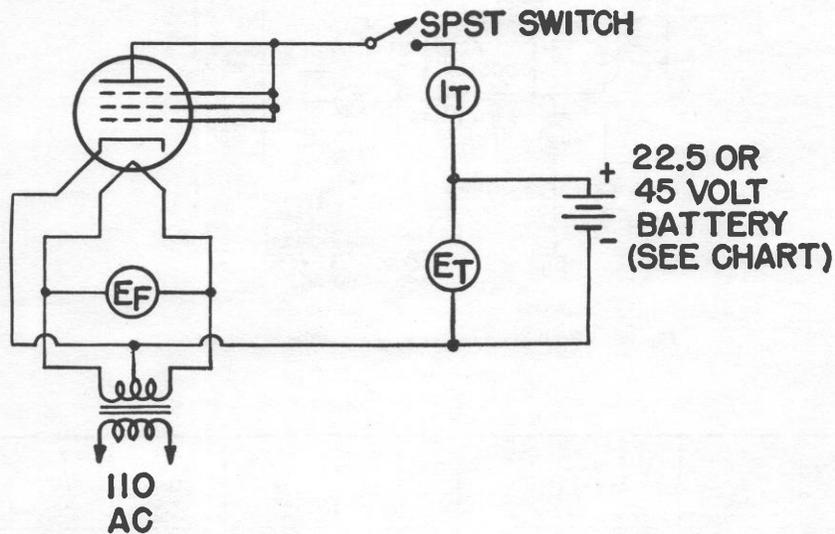

Fig. 3. Circuit diagram for limited peak emission test.
To run this test, connect the tube as shown in Fig. 3. Apply the filament voltage specified in column 1, page 6, and allow the filament to heat for five minutes. Make certain you are using the right plate voltage (column 2, page 6) then throw the switch. The instant the plate current meter settles down, make a mental note of the reading and turn the switch off. **Under no circumstances should the plate voltage be applied for more than four seconds.**
1. Exact figures are not available for tubes other than those listed on page 6 of that issue. However, when about 30 volts DC is applied to most small and medium power transmitting tubes in the circuit of Fig. 3, approximately twice the normal maximum rated plate current should be observed on the milliammeter.